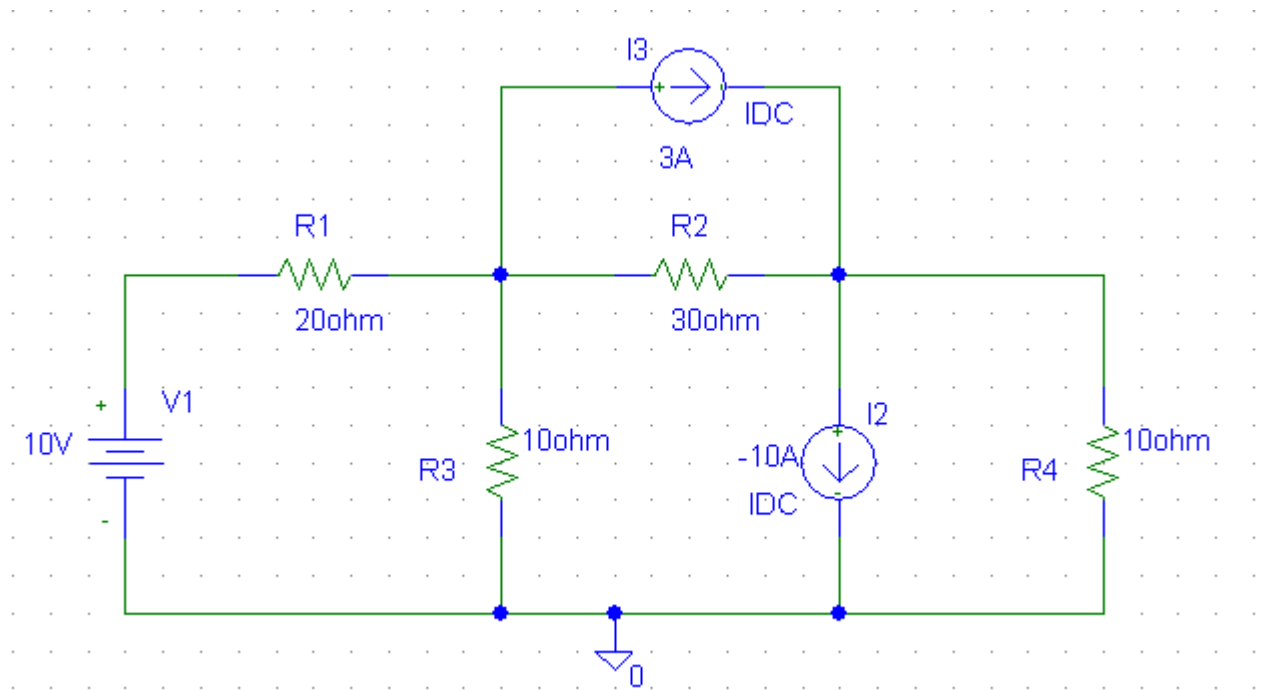

Figure 2. Circuit for lab practice
- (i) Draw the circuit as shown in Figure 2 using PSpice Schematic.
1. Theoretically calculate all the currents and the voltages for the circuit shown in Figure 2.